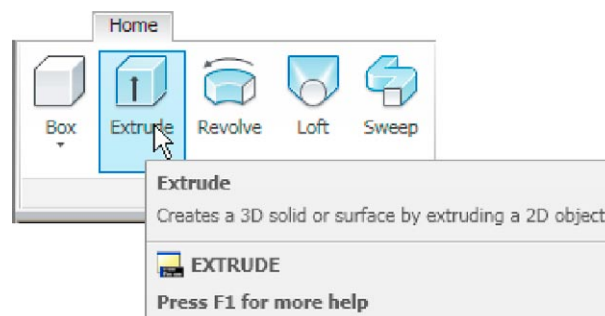

Fig. 12.12 The **Extrude** tool from the **Home/Create** panel
The **Extrude** tool can be called with a *click* on its name in the **Home/Create** panel (Fig. 12.12), or by *entering* **extrude** or its abbreviation **ext** at the command line.
3. Call **Extrude** (Fig. 12.12). The command line shows: